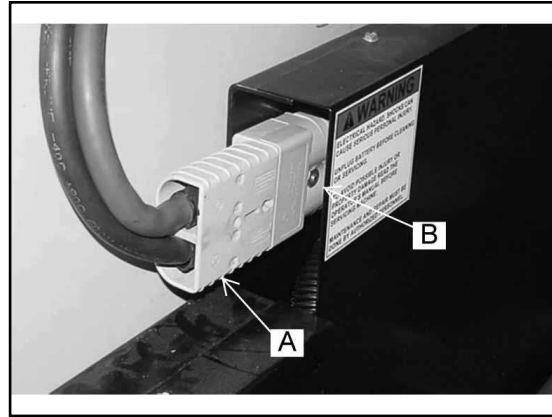

FIGURE 61
2. Fig. 61. Disconnect the battery power connector (A) from the machine power connector (B).